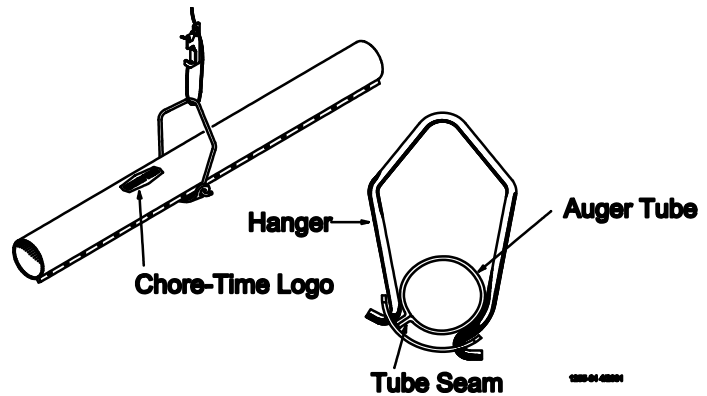

Figure 23. Hanger Installation
3. To achieve total feed drop out all along the system, the Chore-Time Logo should be centered at the crown of the tubes and all the Hangers should be installed as shown in **Figure 23**.
5. Install the Hangers on the feed line tube at the 8' [2.4 m] spacings determined by the suspension drop lines. **Figures 23 and 26** show the proper installation of the Hanger Assembly. Make sure the outlet drop hole is downward when the Hangers are installed, otherwise feed will not be allowed to drop into the feeder pan.